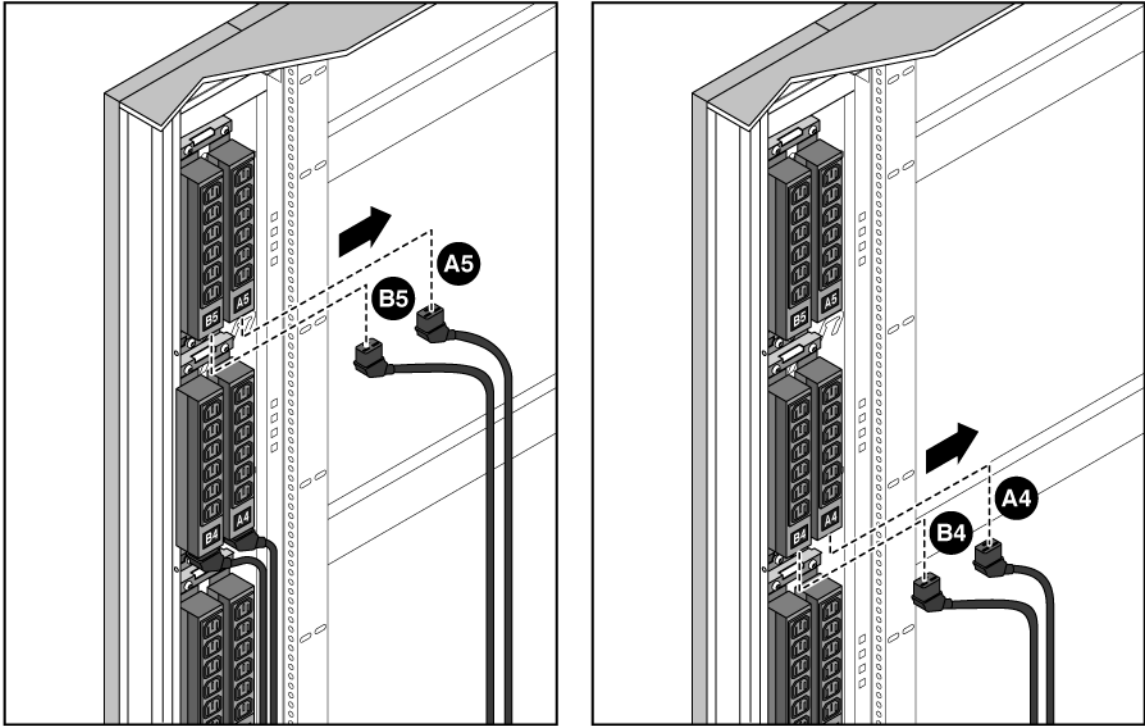

FIGURE 2-17 Disconnecting the Power Cables from the Power Strips
3. Remove the power cables from the power strips (FIGURE 2-17).